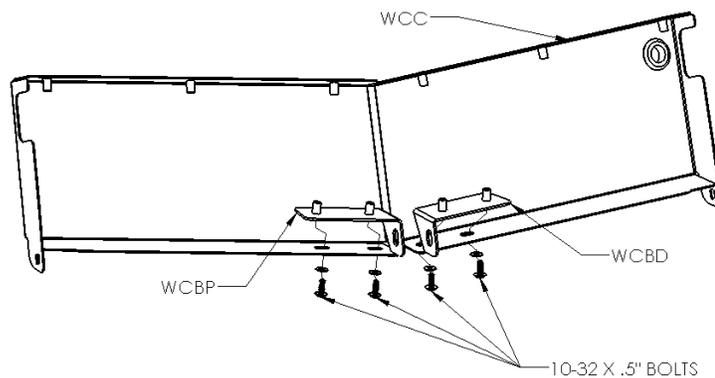

FIGURE 6 – Center Wire Cover, Wire Cover Bracket installation, shown from front view
- c. Loosely attach the Wire Cover Brackets (WCBD & WCBP) to the Center Wire Cover with the supplied 10-32x1/2” truss head bolts and flat washers. Use a thread locker such as Loctite. Snug bolts, but leave them loose enough that the brackets can still move freely. (See FIGURE 6)